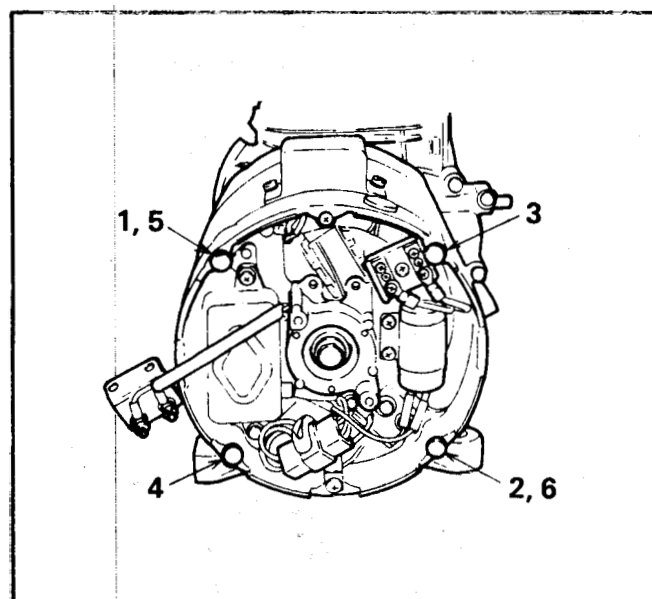

Figure 118
33. Tighten the through bolts in the sequence as shown in Figure 118.